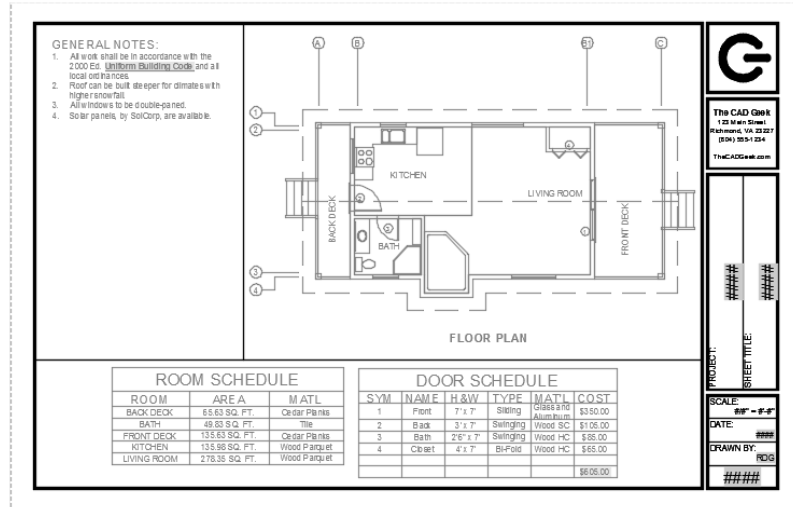

FIGURE 14.27: The new notes and table viewports
8. Create a new viewport in the lower-left corner of the layout (see Figure 14.27).
15. Copy this viewport, double-click inside the new viewport, and then pan and zoom until the General Notes text fills the viewport. Your drawing sheet should look like Figure 14.27.